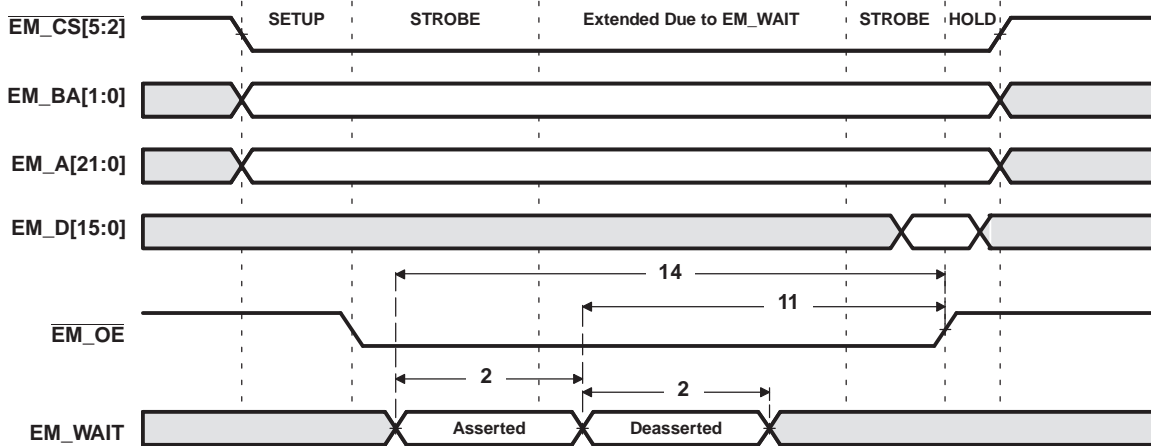
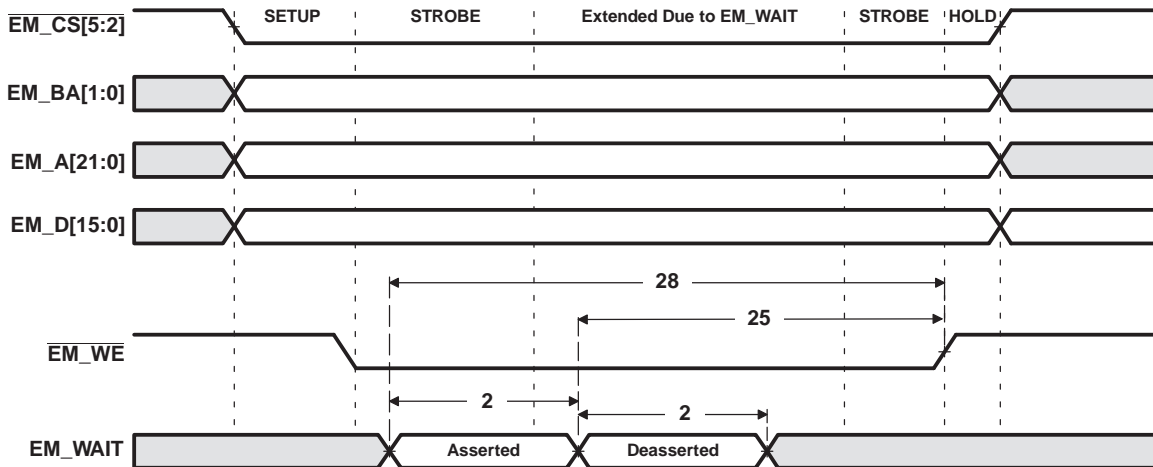

Figure 6-23. $\overline{\text{EM_WAIT}}$ Read Timing Requirements
Figure 6-24. EM_WAIT Write Timing Requirements
- (1) E = SYSCLK5 period in ns for EMIFA. For example, when running the DSP CPU at 594 MHz, use E = 10.1 ns.
- (2) Setup before end of STROBE phase (if no extended wait states are inserted) by which EM_WAIT must be asserted to add extended wait states. Figure 6-23 and Figure 6-24 describe EMIF transactions that include extended wait states inserted during the STROBE phase. However, cycles inserted as part of this extended wait period should not be counted; the 4E requirement is to the start of where the HOLD phase would begin if there were no extended wait cycles.